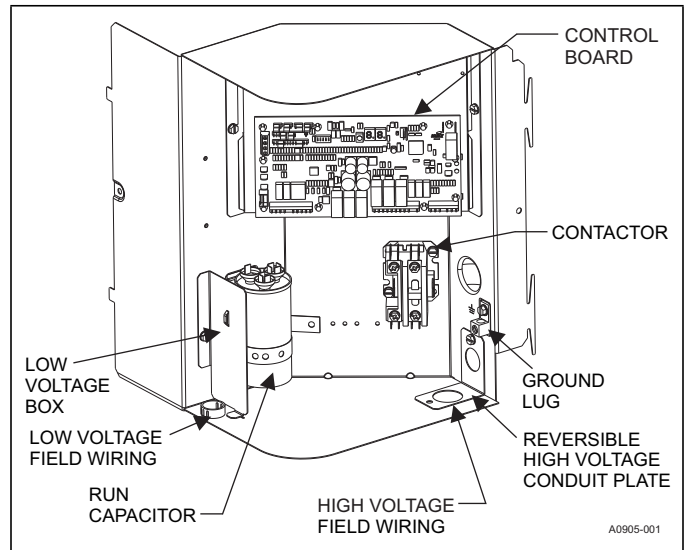

FIGURE 11: Outdoor Unit Control Box
4. Route wires from disconnect through power wiring exit provided and into the unit control box as shown in Figure 1 and view the openings in Figure 11.